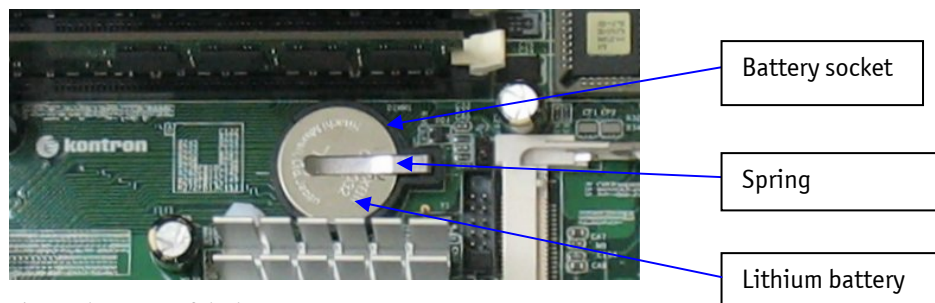

Fig. 5: Placement of the battery
5. Make sure that you insert the battery correctly. The minus pole must be as marked (with a white line on the battery) in the Fig. 5!